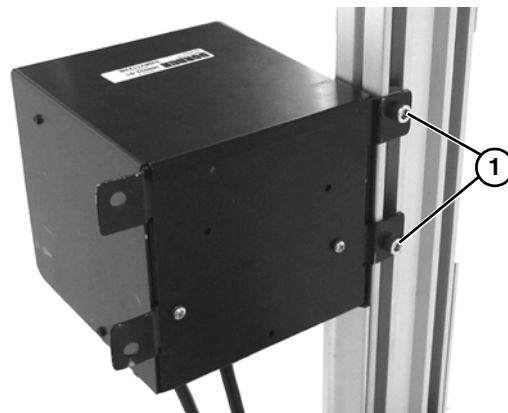

Figure 25
4. Position controller to desired location and tightly secure both screws (**Figure 25, item 1**).